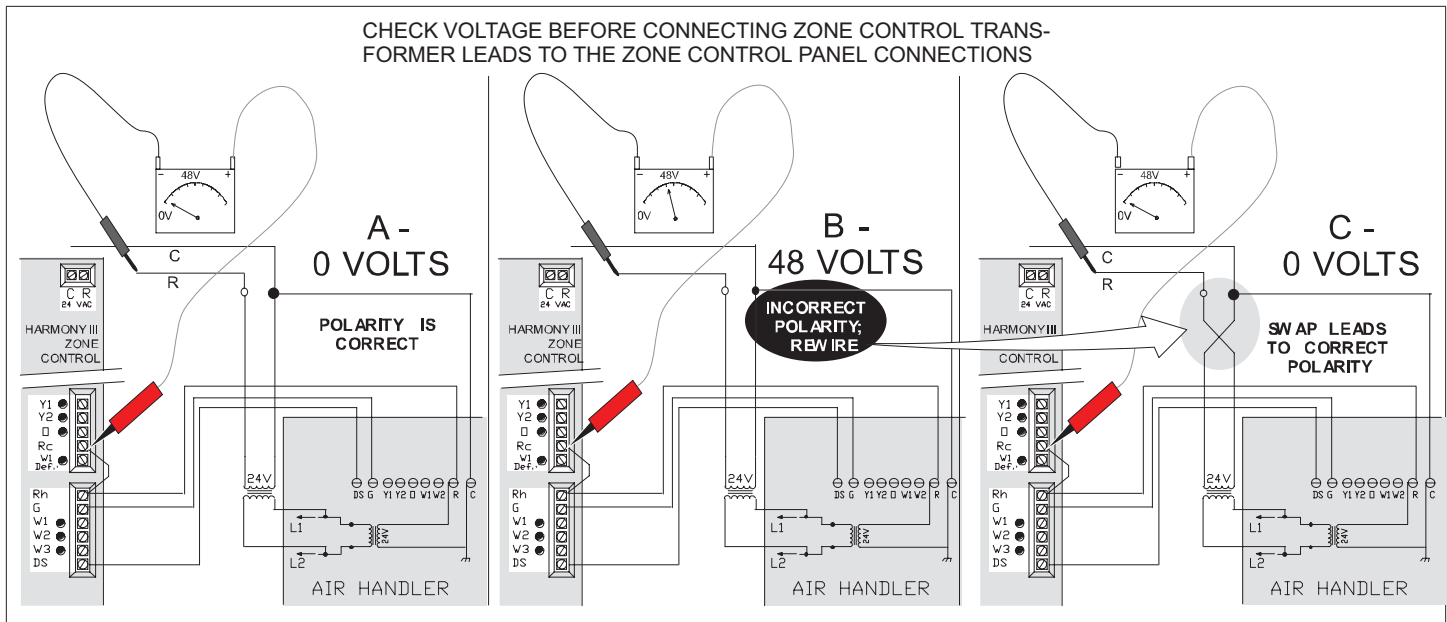

Figure 6. Confirming Transformer Phasing (Polarity) is Correct
1. Connect the zone control transformer primary to the air handler voltage source (see "Figure 6. Confirming Transformer Phasing (Polarity) is Correct").
4. Measure voltage between air handler **R** and unconnected zone control transformer secondary lead (see Figure 6):
- If 0 volts (A, Figure 6) then polarity is correct; connect the leads to zone control **C** and **R** as shown.
- If 48 volts (B, Figure 6) then polarity is reversed; swap leads as shown and confirm 0 volts (C, figure 6); connect the leads to zone control **C** and **R** as shown.